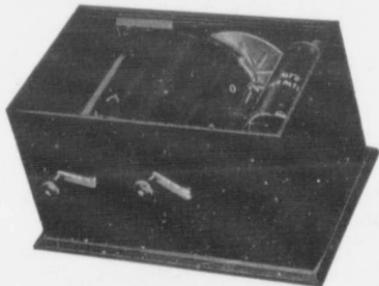

FIG. 5.
7. Now hook apron to lugs on Transferring Reel (Fig. 5), in precisely the same manner that you hooked the opposite end to lugs on the spindle, except that axle "D" turns to the right.